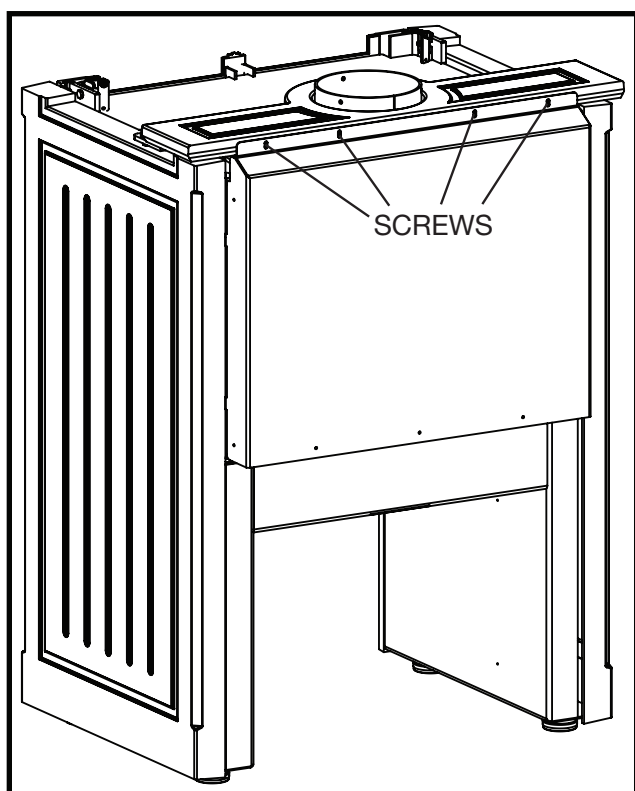

Figure 4: Rear shield removal.
3. Remove the screws securing the Top Rear piece to the rear shield and lift the piece off over the flue collar (Figure 4).